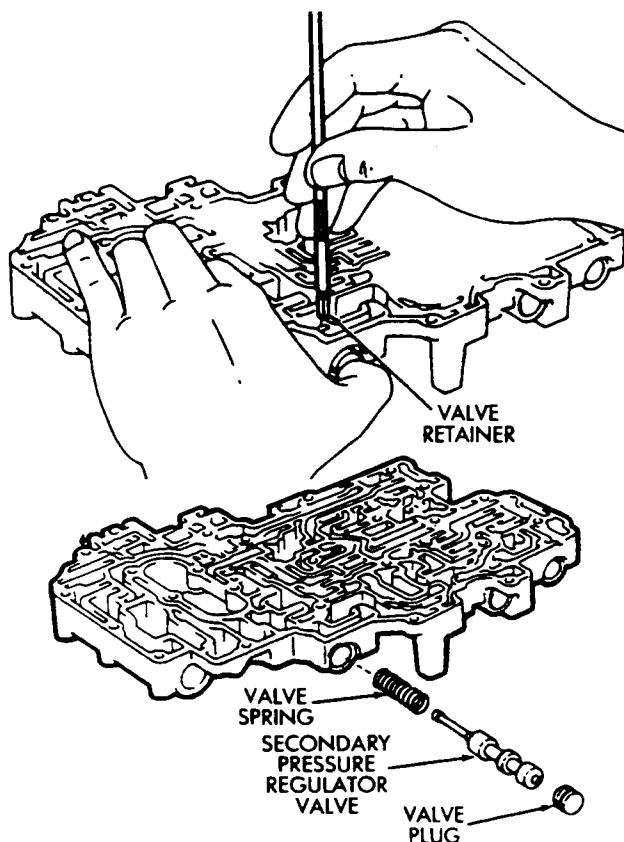

Fig. 8 Removing/Installing Lockup Relay Valve
(8) Install assembled lock-up relay valve in valve bore and install retainer (Fig. 8).